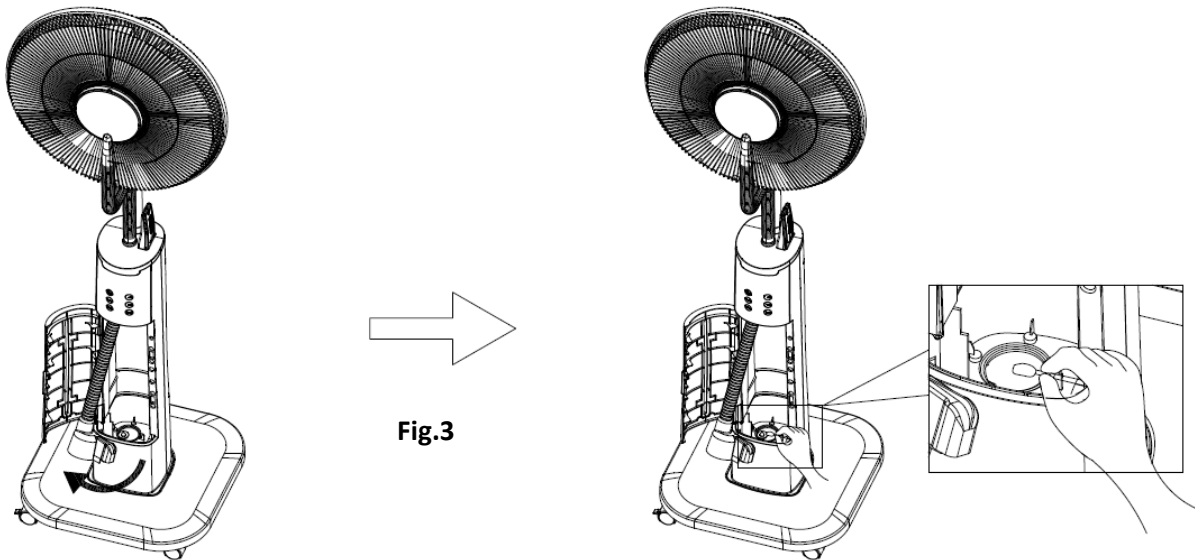

Fig.3
4. Please wipe the ultrasonic vibrator gently with cotton swab after dabbed with detergent. (Fig.3)